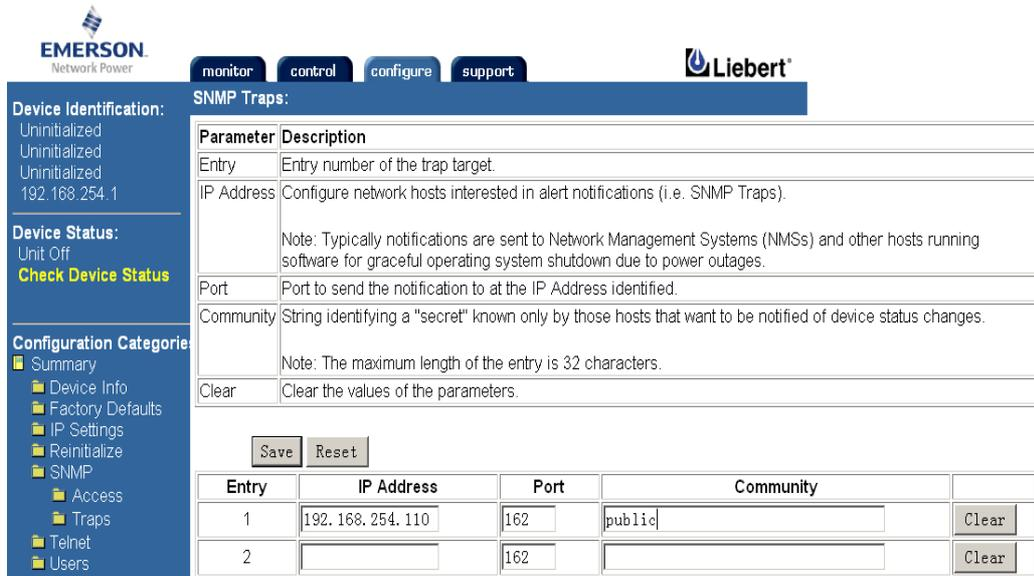

Figure 6-13 NMS configuration interface of SNMP host monitoring center (2)
5. Unfold the SNMP at the left hand of the interface as shown in figure 6-13 and click Traps to set IP Address, Port and Community of the NMS for receiving Traps. After modifying, you must click Save to save the setting.